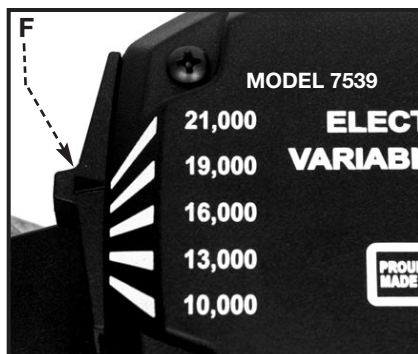

Fig. 12A
Five operating speeds from 10,000 RPM to 21,000 RPM are available by moving the speed selector knob (F) Fig. 12A. Set the speed prior to engaging the router bit into work. To change the speed after work has begun, stop the router, remove the router from the workpiece, and adjust the speed setting.